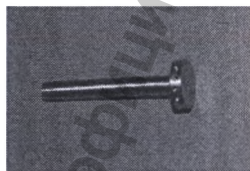

Figure 7: Bengun
- The Drive HeadStage and the components comprising the Drive HeadStage module appear in figure 7.
The Bengun (Figure 7) attaches to the frame adaptor, and holds the cannula stationary so that the electrode can advance up and down. You can place up to five cannulas in the Bengun at a time. Each outside hole is 2 mm away from the center hole.